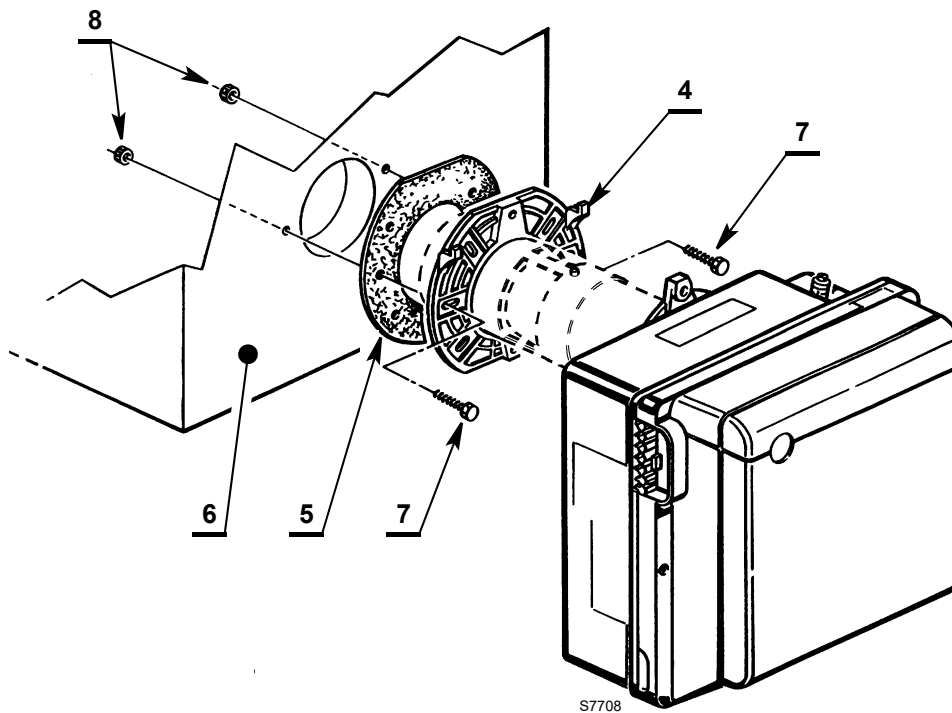

Fig. 10
- Fix the flange 4) to the boiler door 6) (Fig. 10) using screws 7) and (if necessary) the nuts 8) interposing the insulating gasket 5).